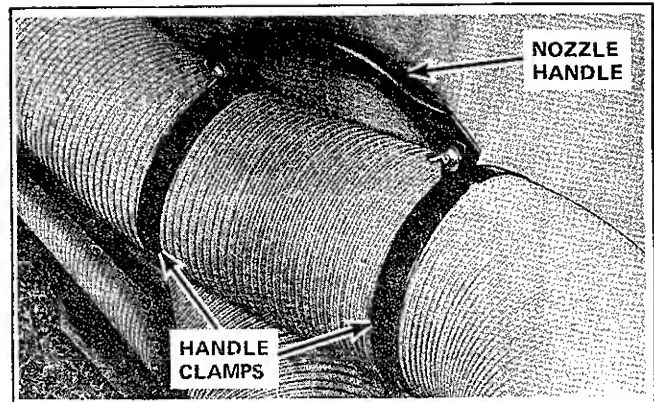

FIGURE 13
2. Install the hose handle clamps the desired distance from the pickup end of the hose and attach the handle. (Figure 13).